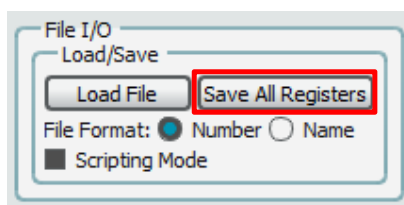

Figure 14: File I/O
1. In the **File I/O window**, click on **Save All Registers**, see Figure 14.